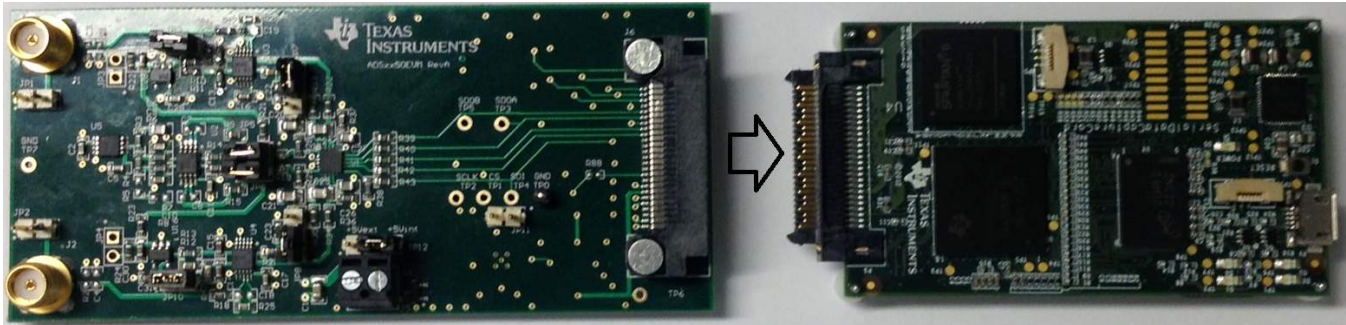

Figure 8. Connecting ADS8350EVM Board to Simple Capture Card Controller Board
- Step 3. Connect the ADS8350EVM board to the simple capture card controller board as Figure 8 shows.